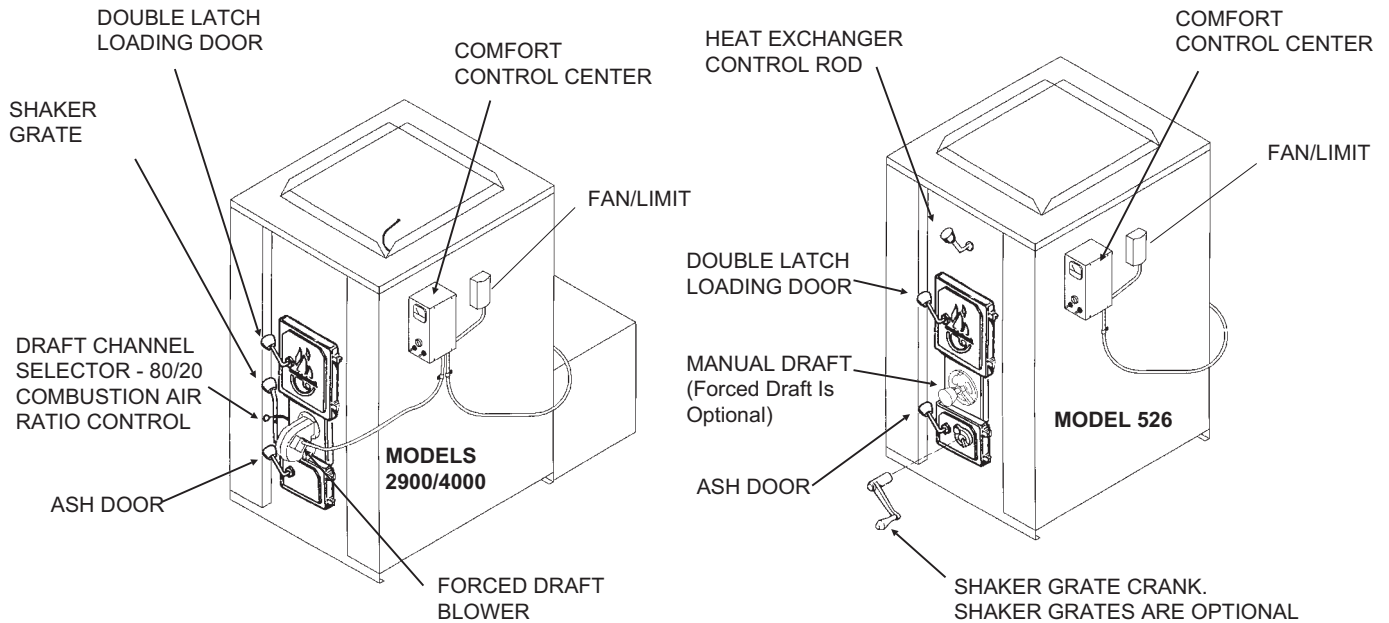

FIGURE 5 WOODCHUCK CONTROLS
First thing is to check that your main blower and draft blower are in proper working order before lighting a fire. To check main blower, push button on fan/limit control for manual override testing. When finished, reset to automatic position, figure 5. Next, turn thermostat upstairs to high temperature so draft blower turns on.
1. Adjust draft channel selector, figure 5, to appropriate fuel setting on model 2900/4000. On Model 526 with manual draft, open it. Place several pieces of crumpled paper in the center of your Woodchuck. Criss-cross a couple of handfuls of dry kindling wood 3/4" thickness, then several small dry pieces of firewood. Ignite the paper and close the door. Do not attempt to open the door immediately after igniting the fire. There could be a flame flash out.